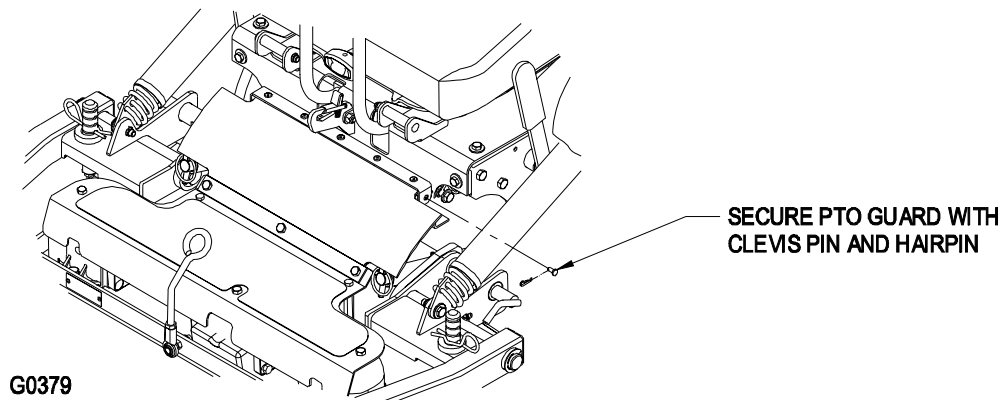

FIGURE 3
- e) Align upper portion of the PTO rubber guard to the tabs on the front of the console and secure with a clevis pin and hairpin on each side. See Figure 3.
- Remove hairpin and clevis from both sides of the PTO guard. See Figure 3.
- b) Remove hair pins and clevis pins from both sides of the PTO guard. See figure 3. Fold guard forward.